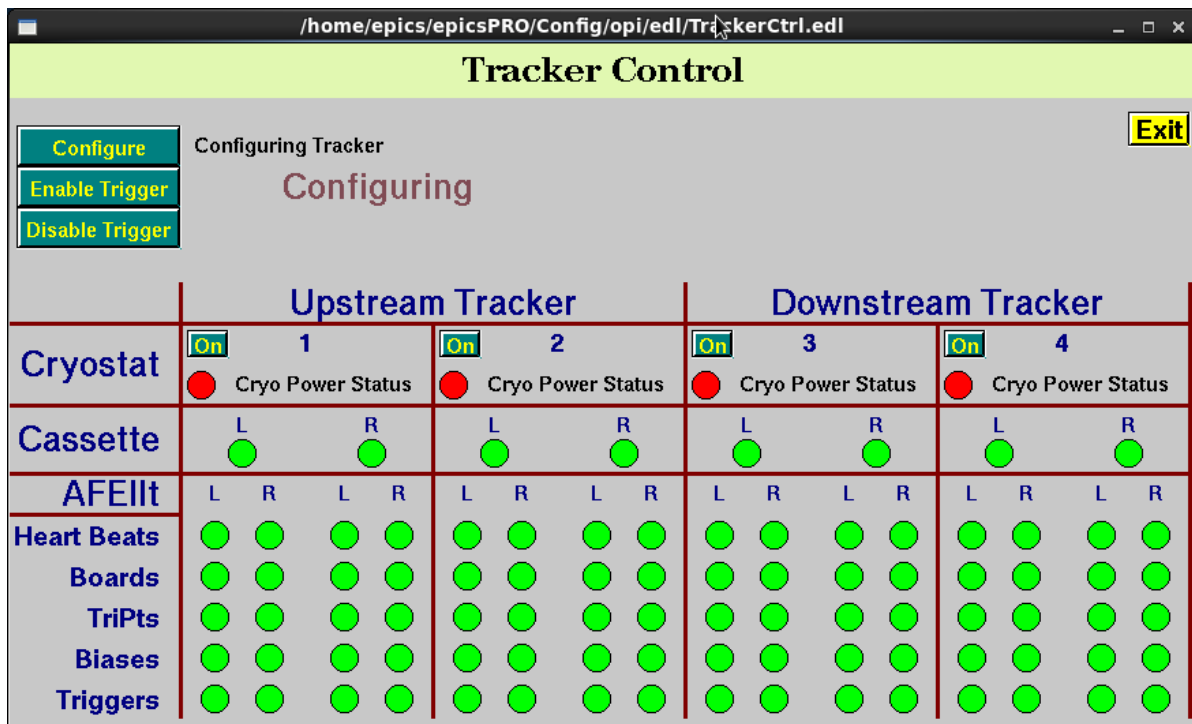

Figure 1: Normal Display for the Controls GUI.
- 2) **Check** the lights by the cassettes and AFEIIt section are green, as displayed in Figure 1. If not refer to the “debugging hints section A” below.